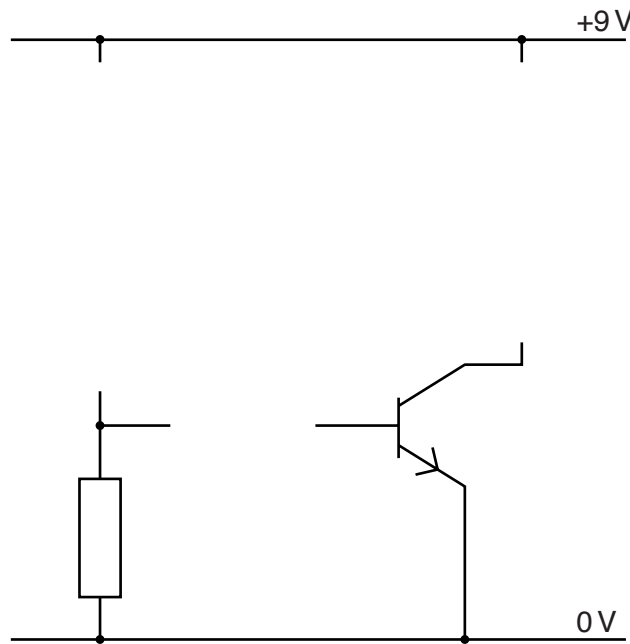

Fig. 5
- (b) Fig. 5 shows a partly completed circuit diagram.